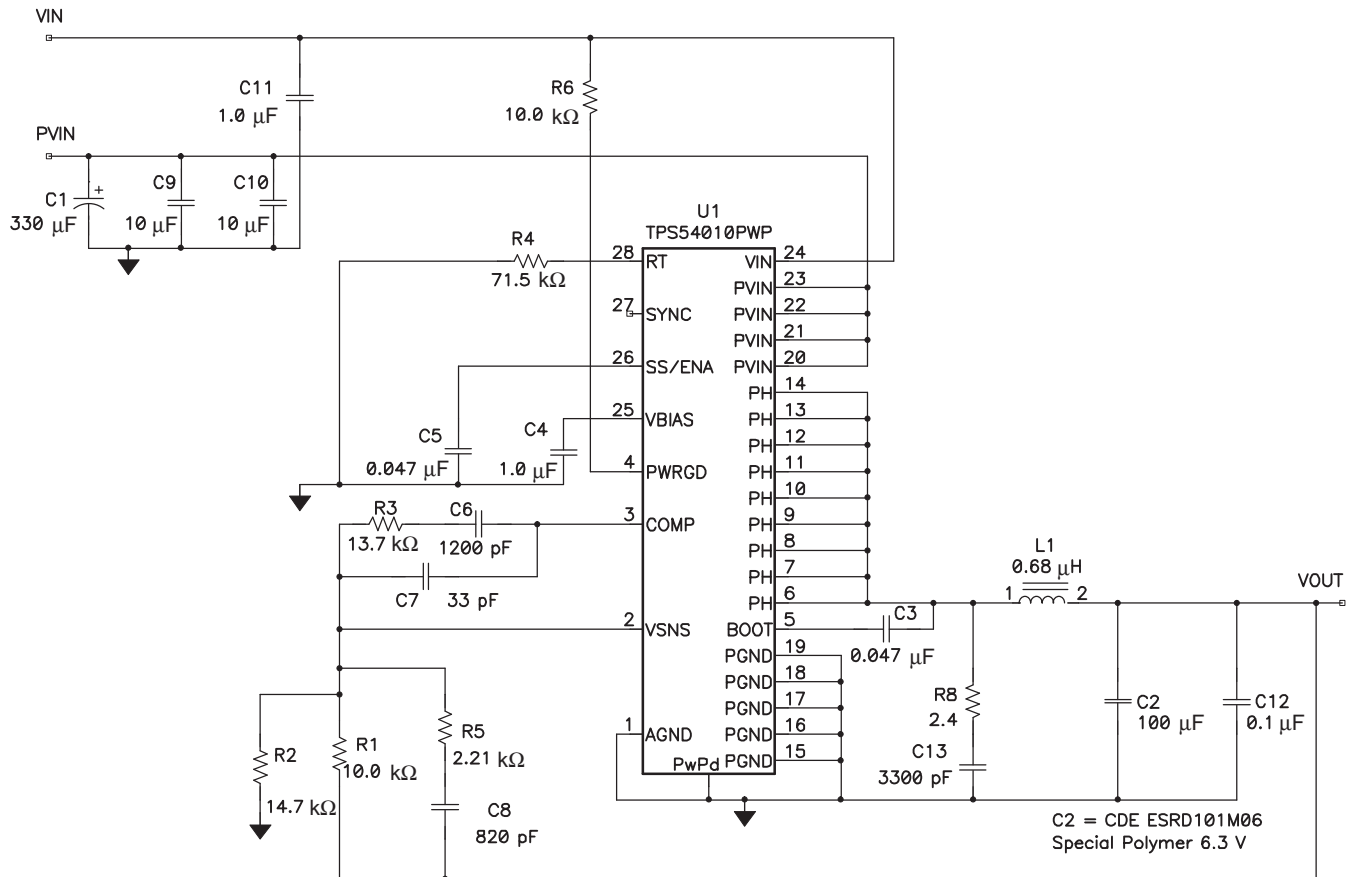

Figure 12. Application Circuit, 2.5 V to 1.5 V
(3) Specified by design from  $-40^{\circ}\text{C}$  to  $125^{\circ}\text{C}$
(4) Specified by the circuit used in Figure 12
Figure 12 shows the schematic for a typical TPS54010 application. The TPS54010 can provide up to 14-A output current at a nominal output voltage of 1.5 V. Nominal input voltages are 2.5 V for PVIN and 3.3 V for VIN. For proper thermal performance, the exposed PowerPAD underneath the device must be soldered down to the printed-circuit board.